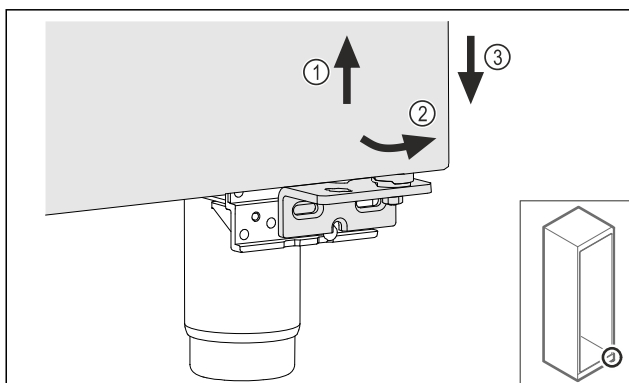

Fig. 24
- Lift the door slightly Fig. 24 (1), tilt it forwards at the bottom Fig. 24 (2) and lower it Fig. 24 (3).